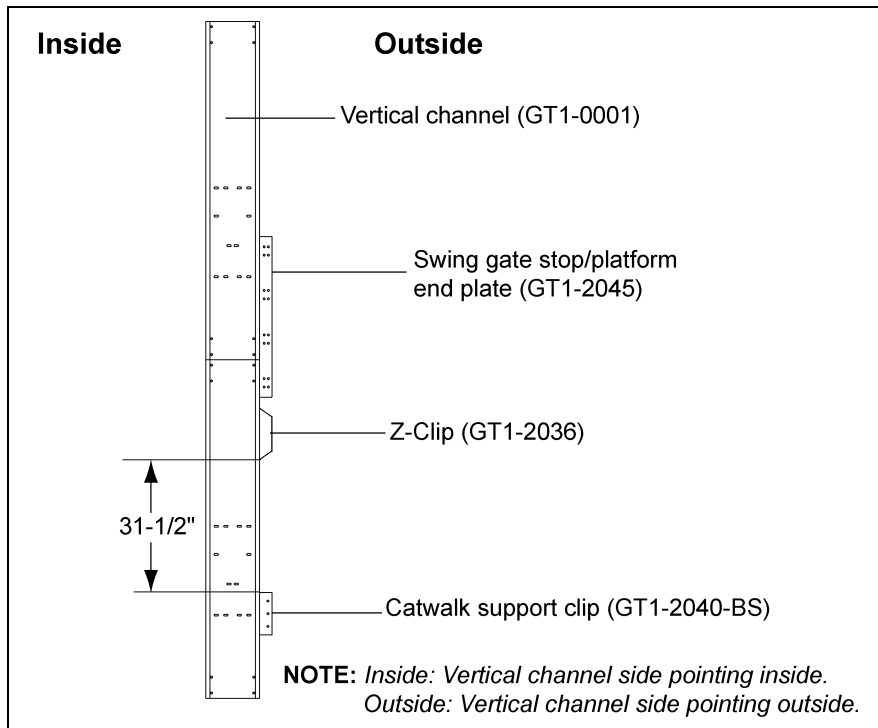
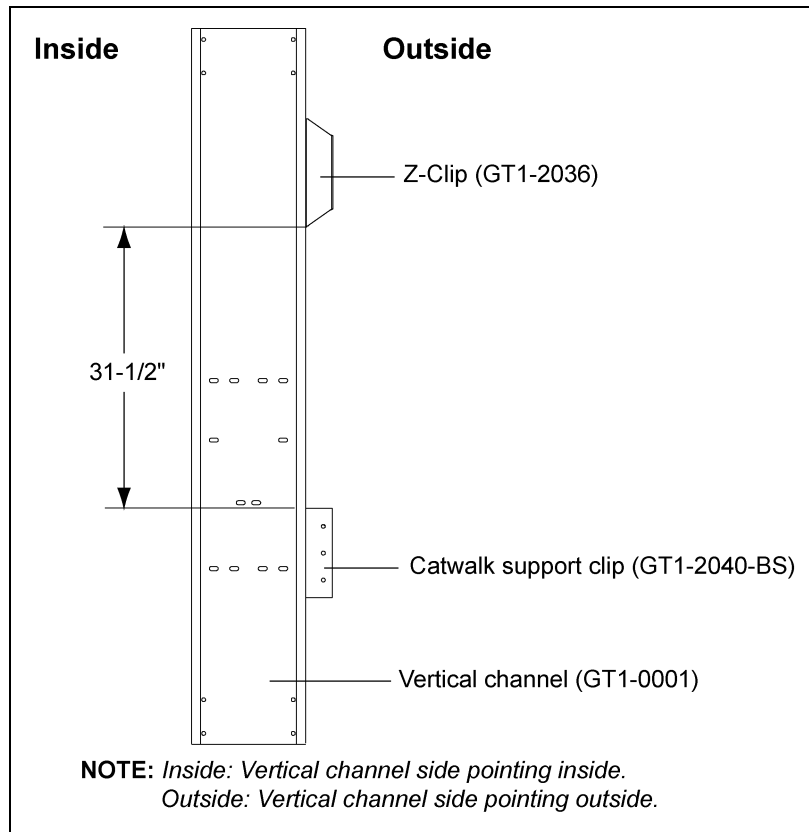

Figure 6H
Figure 6J
2. The distance between the Z-clip and support clip for 18' offset and roof hatch platform is 31-1/2". (See Figure 6H below and Figure 6J on Page 44.)